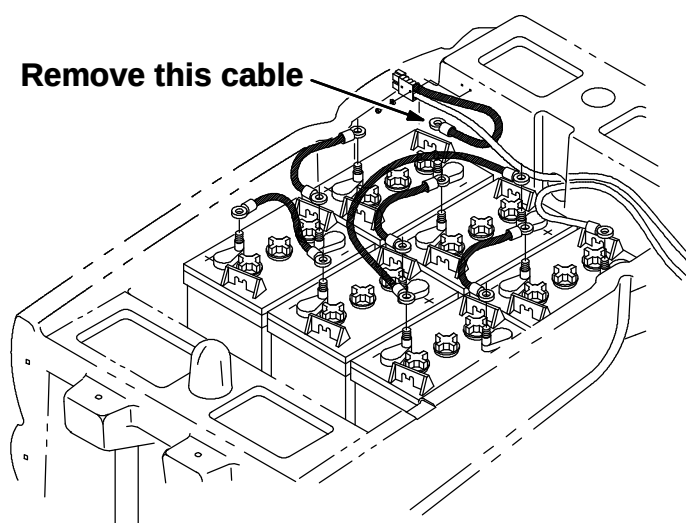
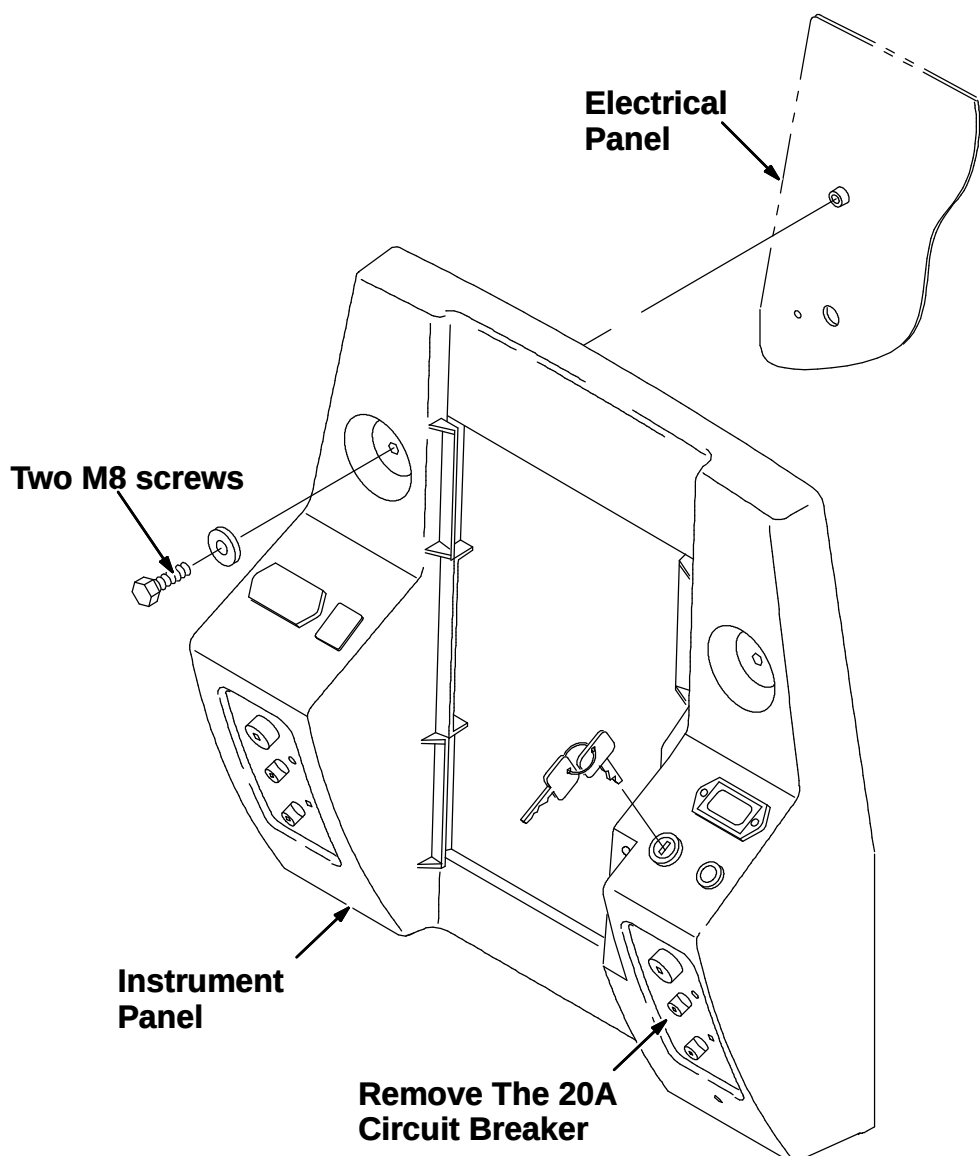
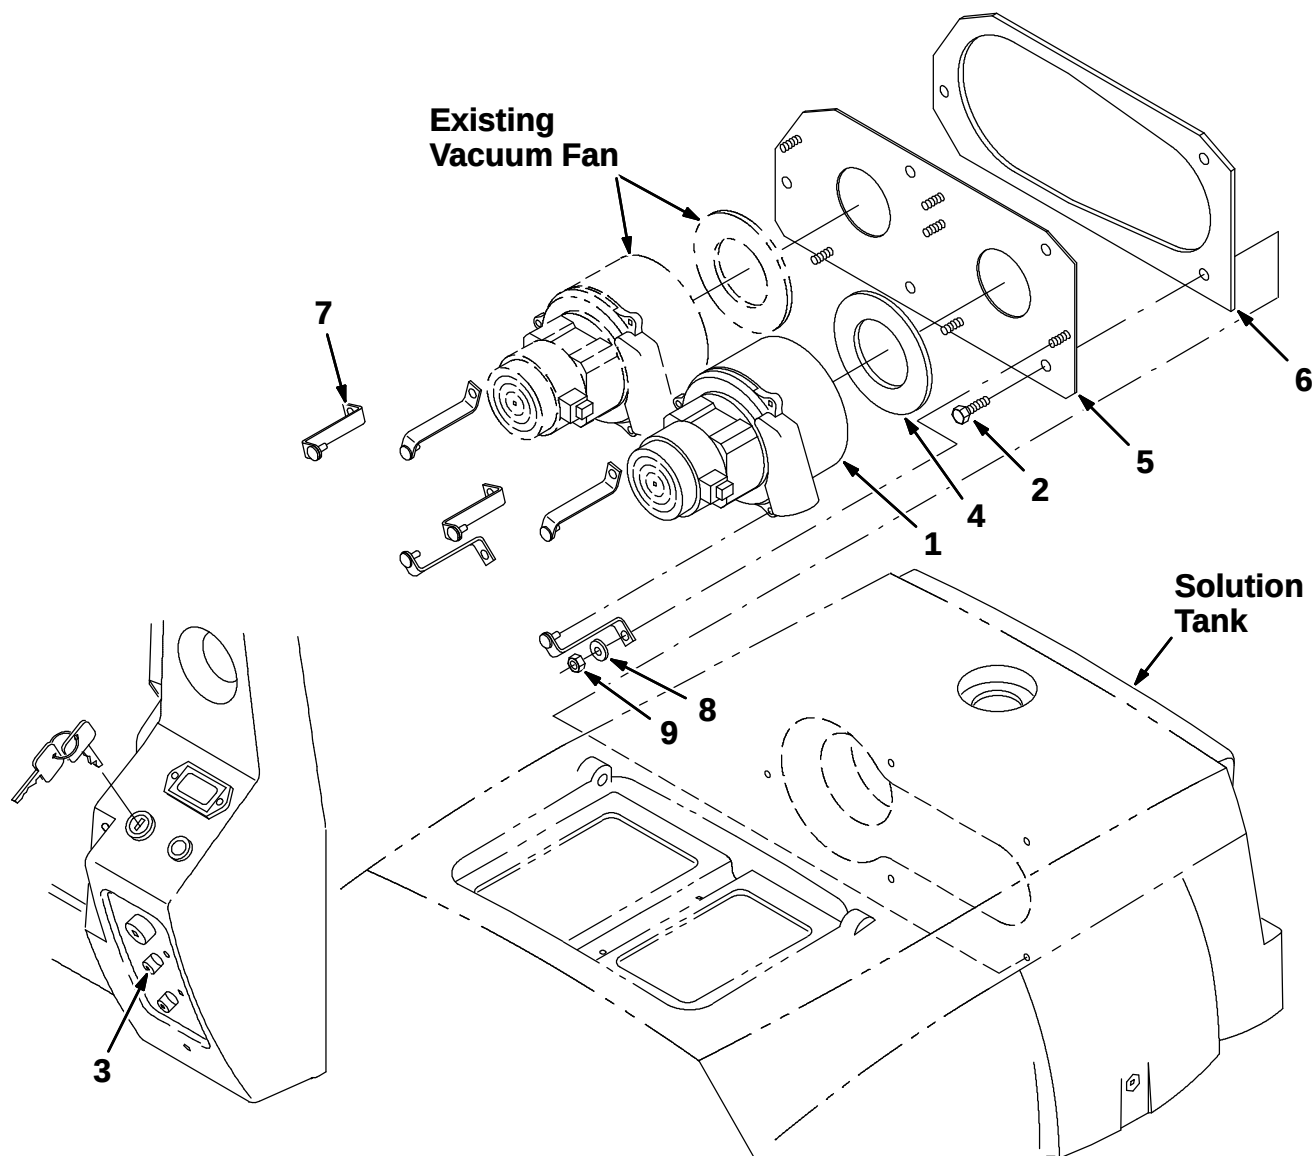

FIG. 1 - Battery Cable Disconnect
FIG. 2 - Instrument Panel Assembly
FIG. 3 - Dual Vacuum Fan Assembly
(Refer to FIG. 1, FIG. 2 and FIG. 3)
2. Disconnect the negative battery cable from the battery nearest the back of the machine before servicing any electrical components. (Refer to FIG. 1)
(Refer to FIG. 2 and FIG. 3)
1. Install the new seal (4) to the new vacuum fan (1). (Refer to FIG. 3)
2. Assemble the original vacuum fan that was just removed and the new vacuum fan (1) to the dual vacuum fan mounting plate (5) using the six vacuum fan mounting brackets (7), six nyloc nuts (9), and six flat washers (8).
3. Install the dual vacuum fan mounting plate gasket (6) to the mounting plate (5).
4. Install the dual vacuum fan assembly to the under side of the solution tank using the three M8 hex screws (2).
6. Remove the two M8 hex screws holding the top of the instrument panel to the electrical panel. (Refer to FIG. 2)
12. Position the new 40 amp circuit breaker (3) into the instrument panel and reinstall with the two pan head screws.
13. Pivot the instrument panel assembly back to the electrical panel. Reinstall the two M8 hex screws and tighten. (Refer to FIG. 2)